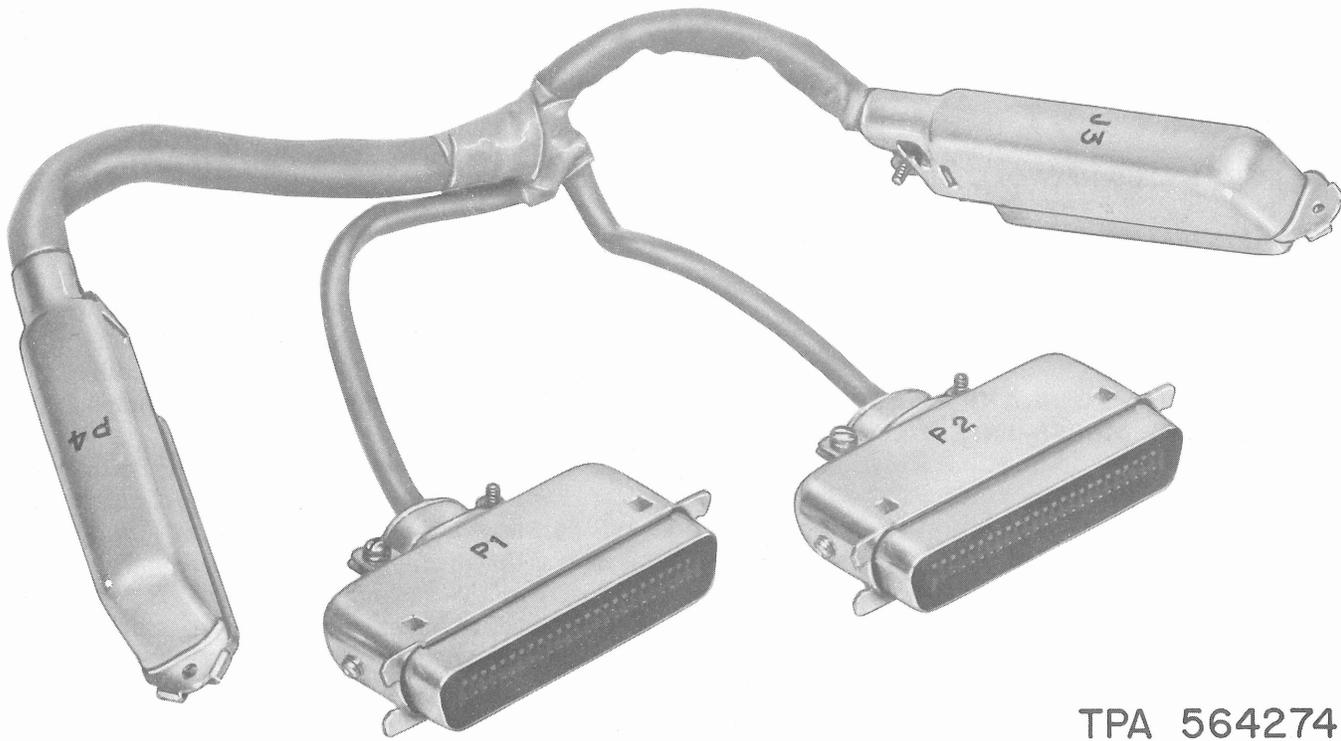

Fig. 2—209A Adapter Cord
1.03 Circuit functions of the four circuit packs are interconnected by the wiring provided in the special 209A adapter cord (see Fig. 2). This adapter cord is capable of serving two separate interconnection arrangements when both are contained in the same 28A1 Data Mounting.